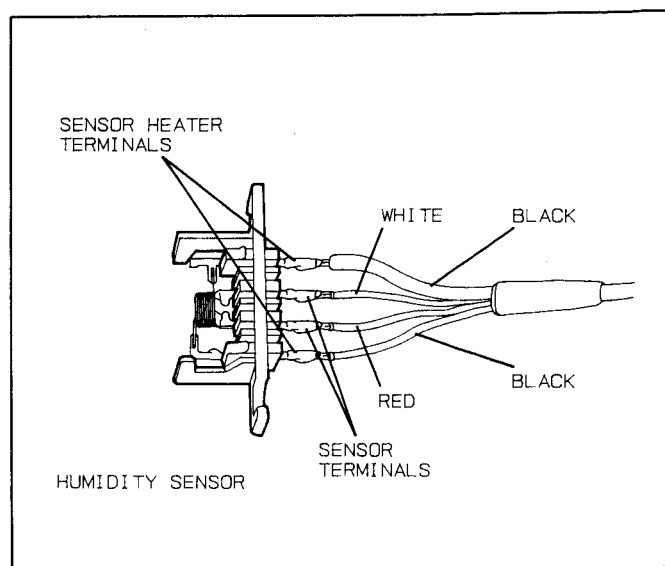

Fig. 35
6. Humidity Sensor and digital programmer circuit (Fig. 35) (NN-8807/8857)